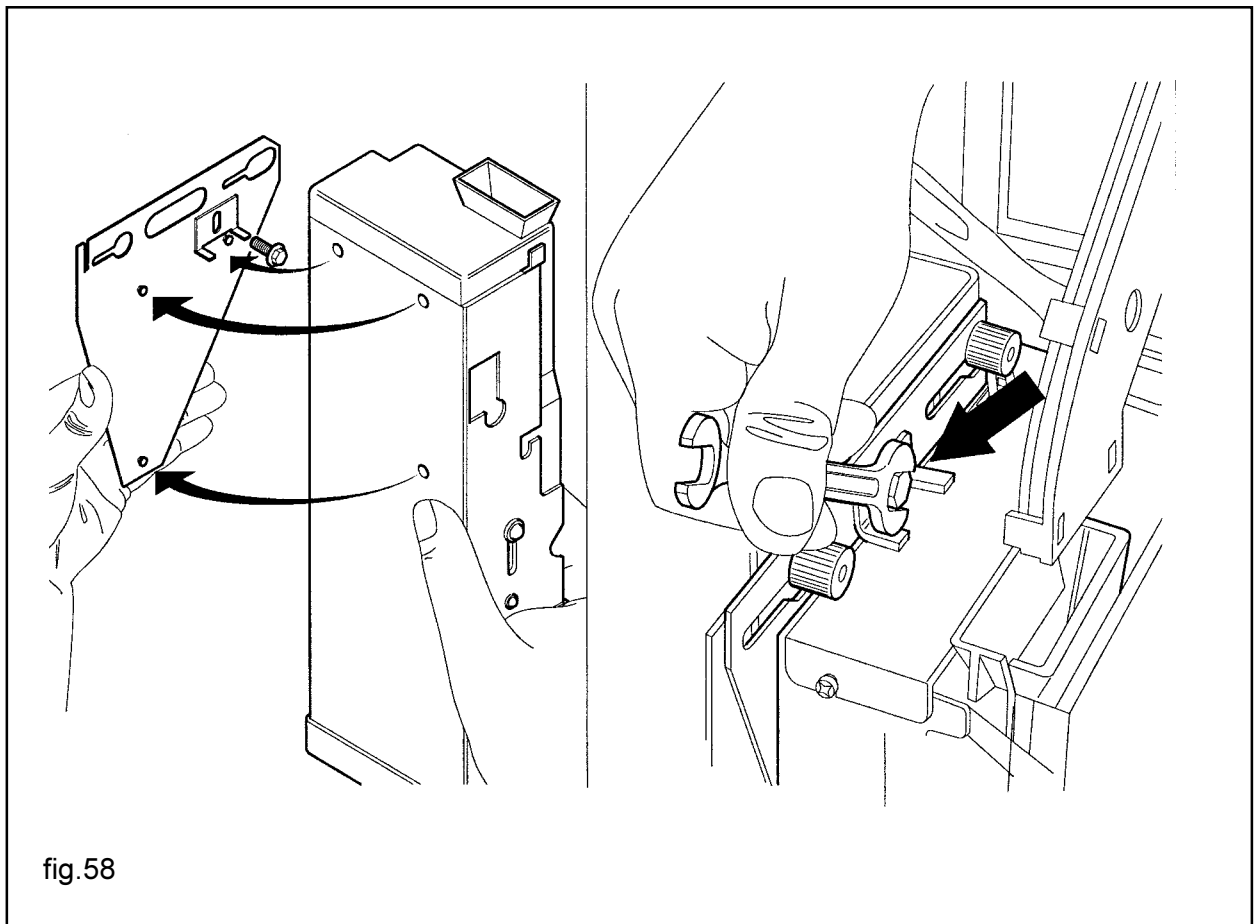

fig.58
- Hook the coin mechanism to the support brackets (fig.58).